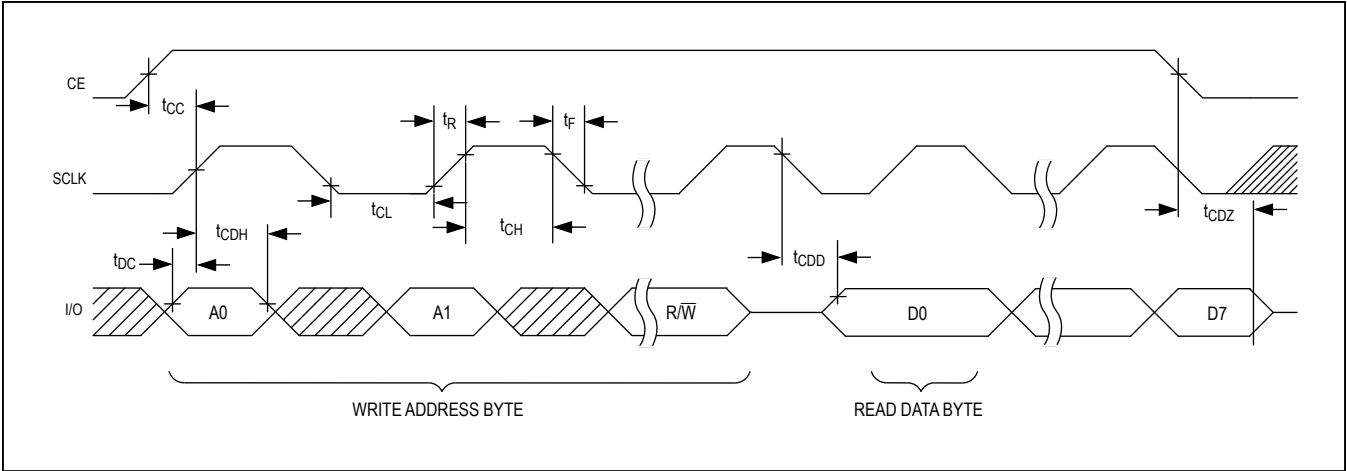

Figure 3. Timing Diagram—3-Wire Read Transfer
**AC Electrical Characteristics—3-Wire Interface**(VCC = VCC(MIN) to VCC(MAX), TA = -40°C to +85°C.) (Note 1) (Figures 3, 4)